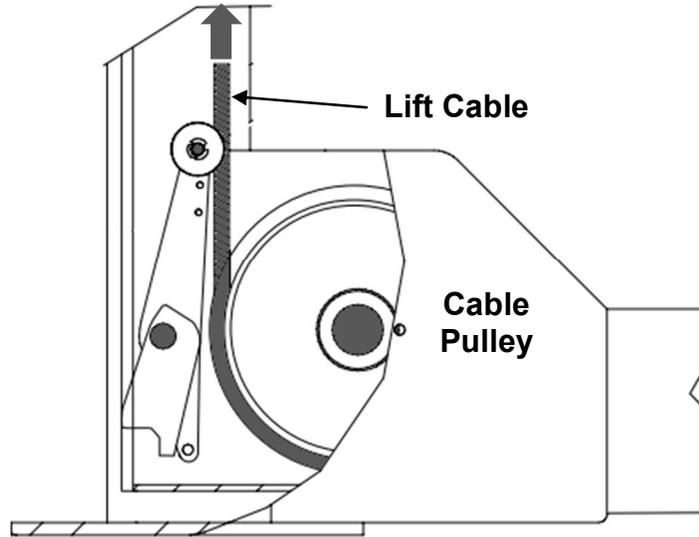

Fig. 8
- 7) Route specific cable ends down & around each crossbeam cable pulley and up, making sure cables are not crossed inside crossbeams, **Fig. 8**.